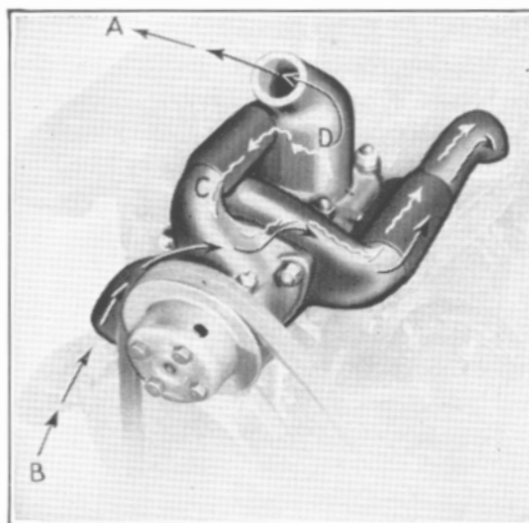

Figure 13
Models 25 and 27, which use a by-pass type water pump, are equipped with a by-pass type thermostat, located in outlet (D), Fig. 13. This type thermostat, although restricting water circulation through the radiator core, does permit circulation through the by-pass (C) in the pump and back into the cylinder block. This thermostat also begins to open at 150° to 155° and is fully opened at 185° .